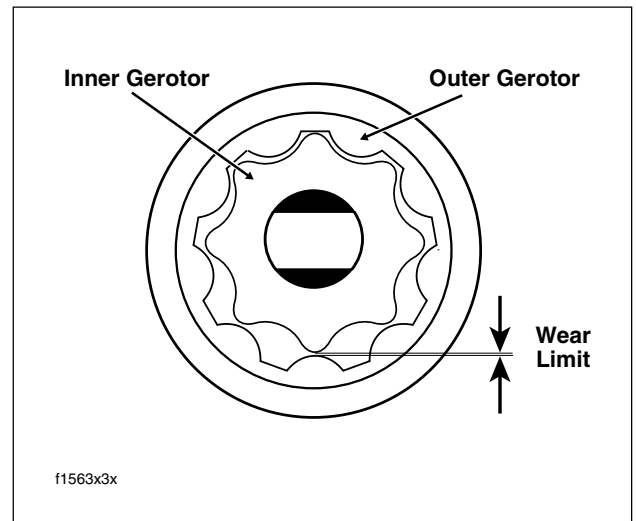

Figure 3-123. Measure Gerotor Sets for Wear
6. Mesh pieces of one gerotor set together as shown in Figure 3-123. Use a feeler gauge to determine clearance between tips of lobes on inner and outer gerotors. The maximum allowable clearance is 0.004 inch (0.10 mm). Replace gerotor set if clearance exceeds specification. Inspect second gerotor set in the same manner.